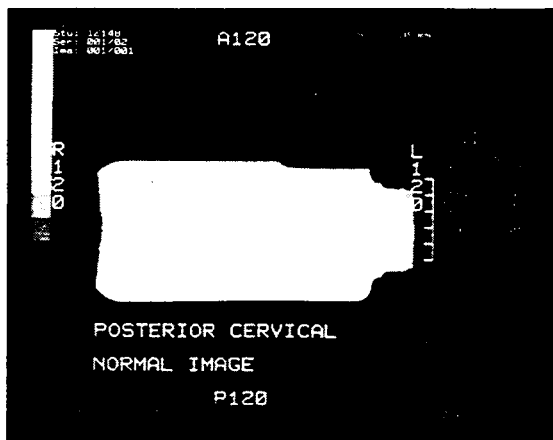

FIGURE 3—SUCCESSFUL DECOUPLING
- 3.2 If scan can be executed, inspect image at window width 350 and window level 1100. See Figure 3 for representation of a successful scan.